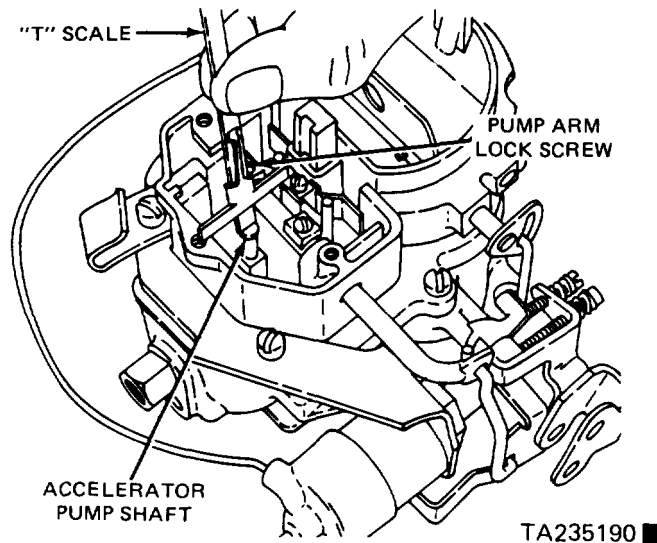

Figure 12-14. Measuring the Accelerator Pump Stroke.
(1) Be sure the accelerator pump "S" link is in the outer hole of the pump arm.
(2) Measure the distance between the surface of the air horn and the top of the accelerator pump shaft (figure 12-14). The accelerator pump setting at idle should be one-half inch.